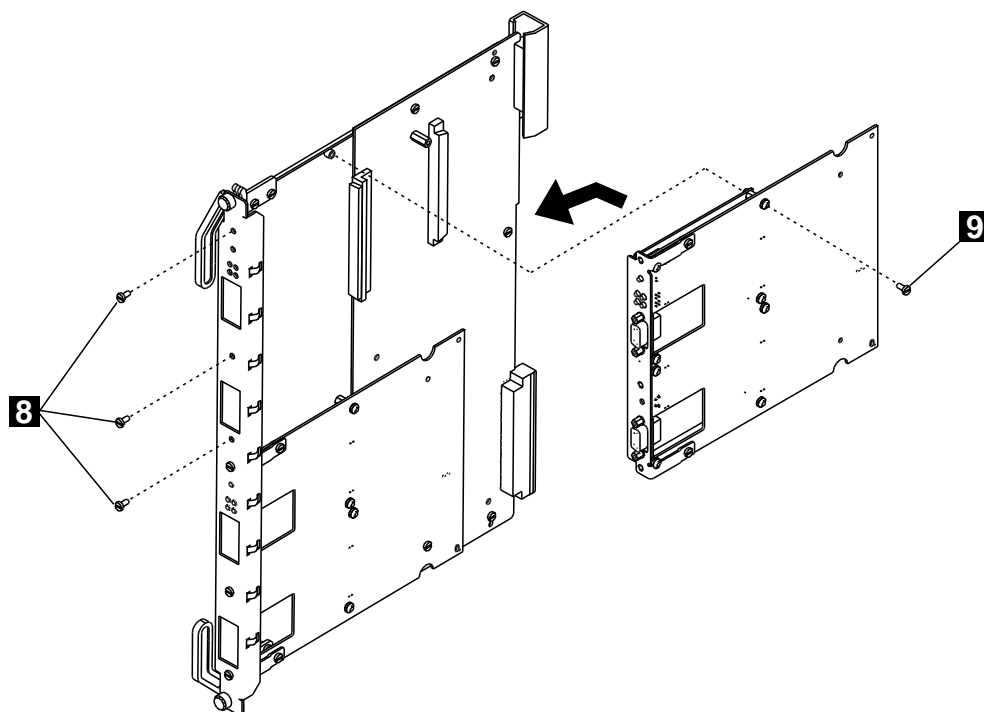

Figure 17. Reattaching the Motherboard
- **10** Reattach the motherboard to the module using the four screws (**8** and **9** in Figure 17) that originally held the motherboard.